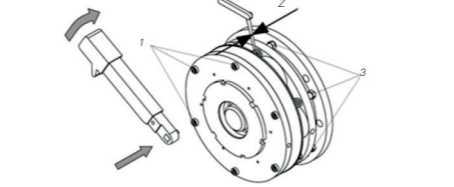

Figure 7 - Checking the air gap of the brake sizes 25 and 31
3. When the air gap adjustment is correct, tighten the fixing bolts 1 (Fig. 7) according to the tightening torque specified in Table 4.
4. Carry out the steps 6 to 8 as specified in item 5.3.